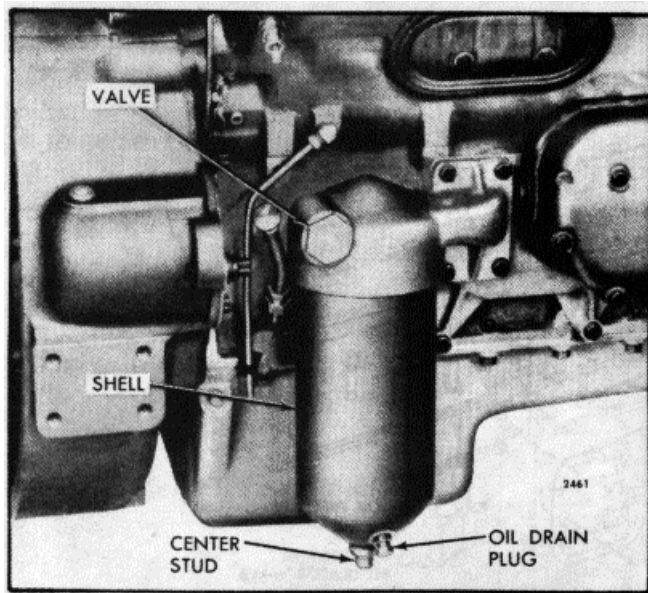

Fig. 18. - Typical Full-Flow Filter Mounting
Engines are equipped with a full-flow type lubricating oil filter. If additional filtering is required, a bypass type oil filter may also be installed. The full-flow filter assembly can be remotely mounted or mounted on the engine as shown in Fig. 18. A bypass valve, which opens at 15 psi (103 kPa), is located in the filter base to ensure engine lubrication in the event the filter should become plugged.
1. Remove the drain plug and drain the oil (Fig. 18).